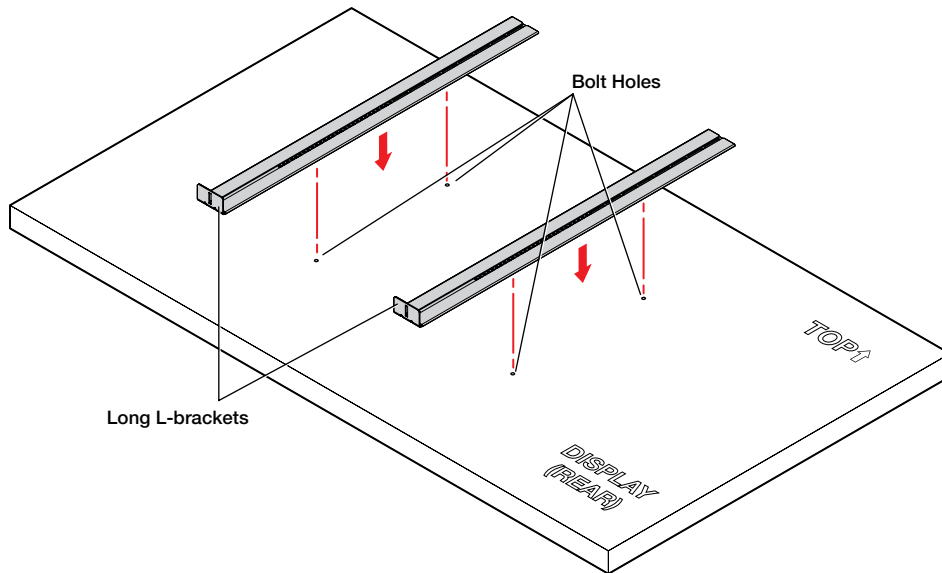

Figure 39. Installing Long L-brackets
2. Position one long L-bracket of the SB 33 kit on the back of the display while aligning the bolt holes on the display with a slot on the L-bracket. Repeat this procedure for the other long L-bracket on the other side of the display (see figure 39).